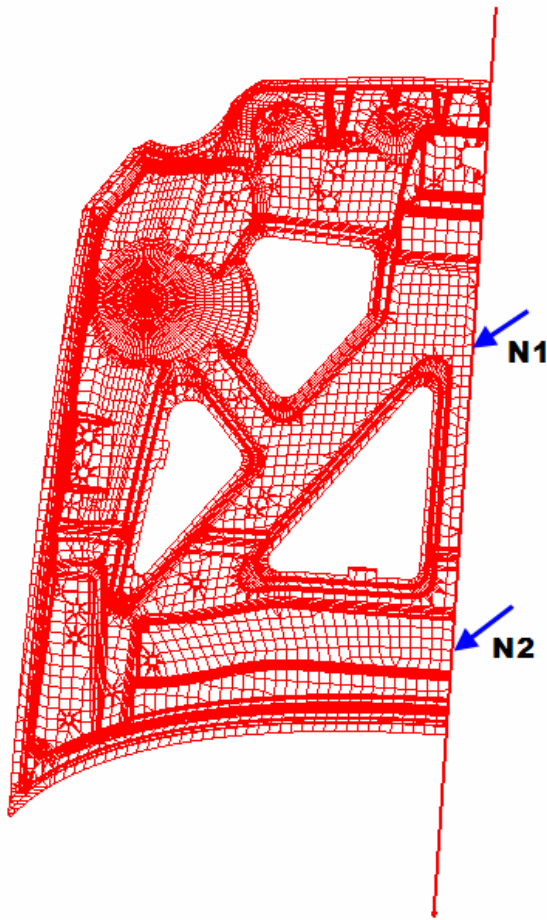

Figure 17 Selected Nodes to define symmetry plane
8. Select two nodes as illustrated in Figure 17 to define the symmetry plane.